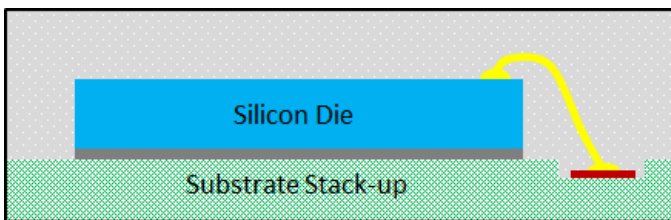

Fig. 1. Cross-sectional view of a substrate-based electronic package.
- Substrate-based packages in Fig. 1 have stack-up made of a dielectric core material, prepreg material, copper traces and vias for the input-output (I/O) signal connections, and protected with top and bottom solder resist material